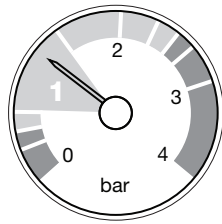

Fig. 1
1. The normal operating water pressure is when the needle is in the GREEN section of the gauge, between 1 and 2.5 bar (Fig. 1). If the pressure exceeds 3 bar (needle in the RED section) the safety pressure valve will operate and a fault is indicated. Contact your installer.